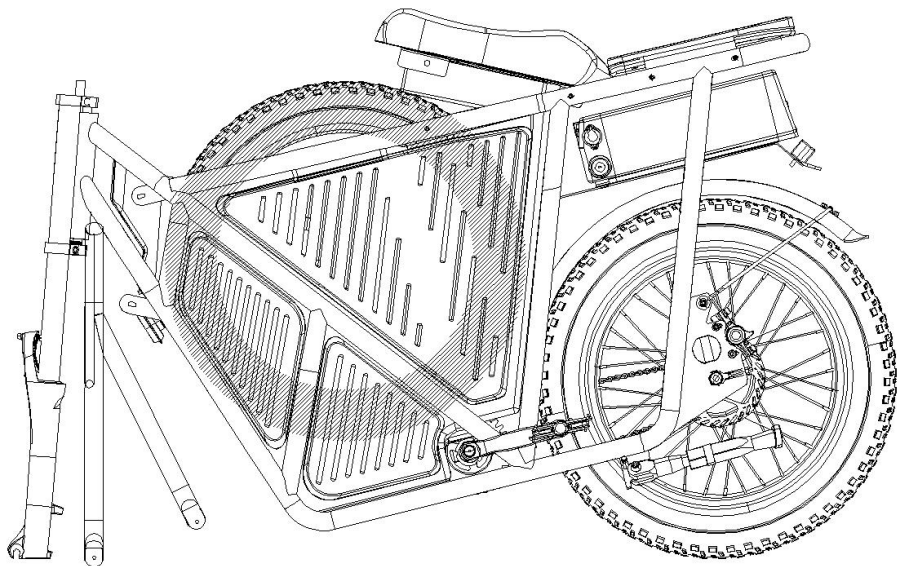

Figure 2-1-1
2.1. Take out of the electric bike from the box (Figure 2-1-1) .